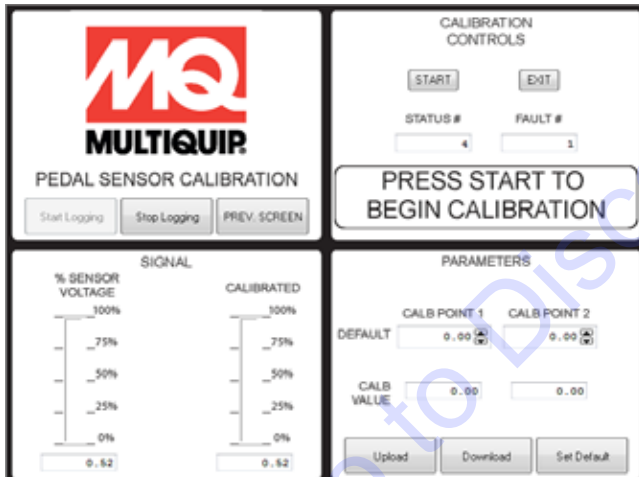

Figure 25. Start Pedal Sensor Calibration
- b. Read % Sensor Voltage (Figure 25).